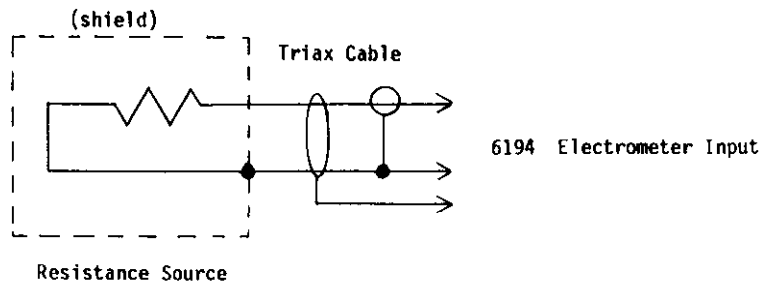

Figure 4-1. Resistance Source Shielding
- For ohms sources above 200k Ω , the resistance element should be shielded to prevent noise pickup. Refer to Figure 4-1.